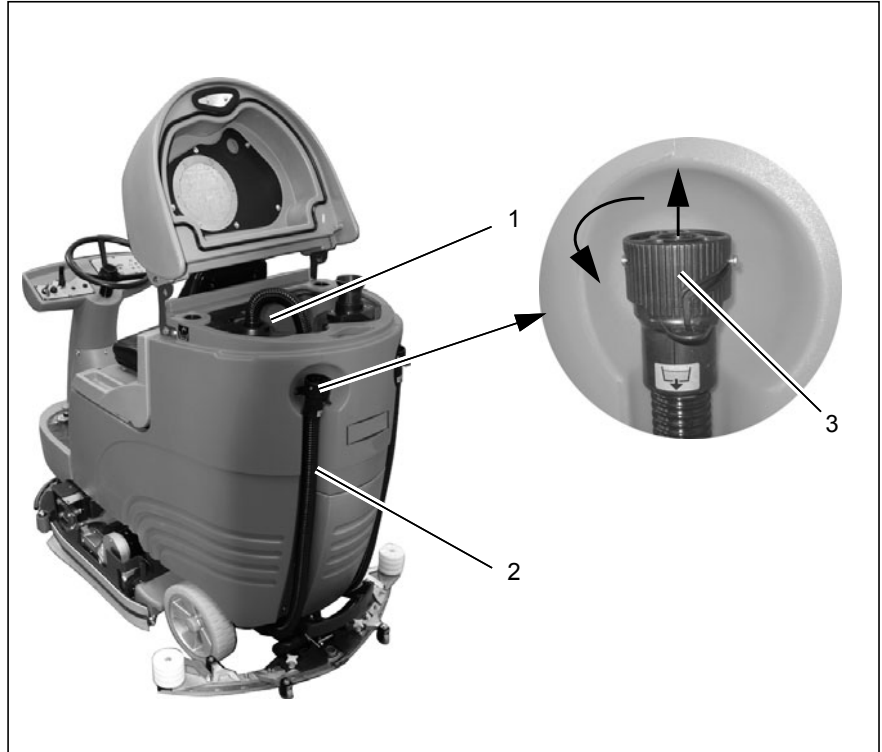

Fig.9
Empty the waste water tank (Fig. 9/1) daily, as necessary or following the acoustic warning and indicator in the display.
2. Park the vehicle so that the draining hose (Fig. 9/2) reaches the drain in the floor.
4. Remove the draining hose from the holder and open the plug (Fig. 9/3) by turning it 90° counterclockwise. Empty the waste water tank completely.